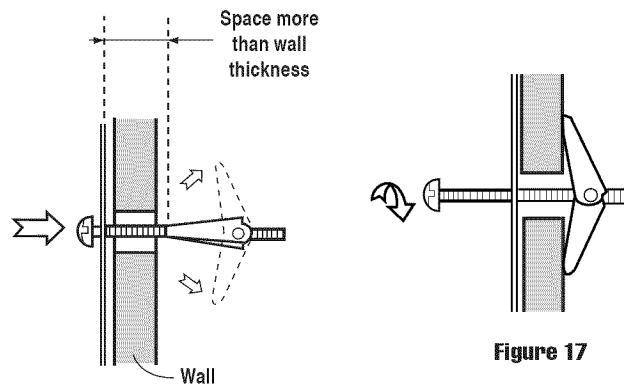

Figure 16
- Position the Mounting Plate with the Toggle Bolts attached at the wall location and insert Toggle Nuts and Bolts through the holes in the wall with the Toggle Nuts closed. See Figure 16. Use Wood Screws to attach the Mounting Plate to studs.